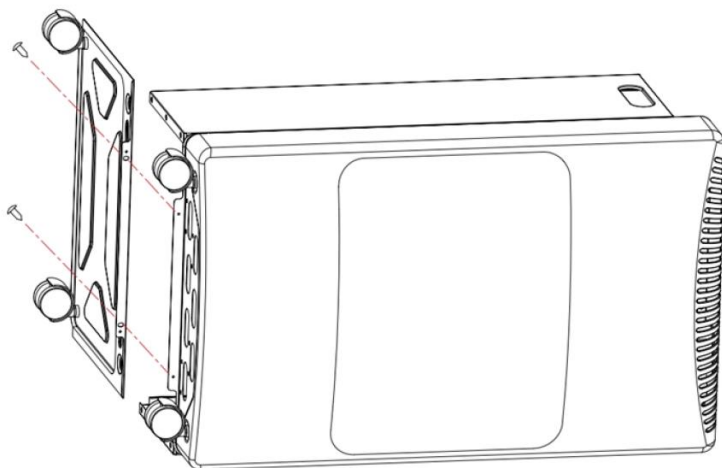

Fig. 3
3. Attach the bottom panel to the bottom of the front panel with two 4*8 mm screws  (see fig. 3)